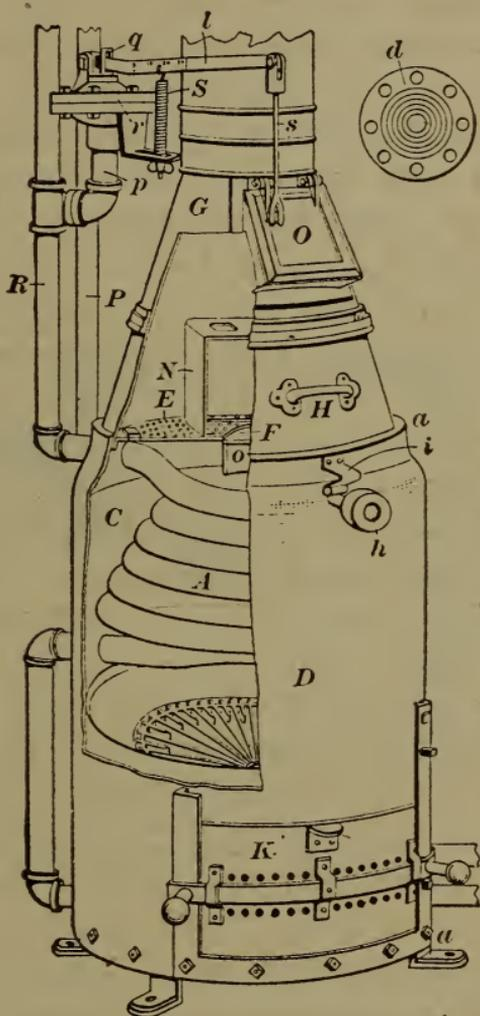
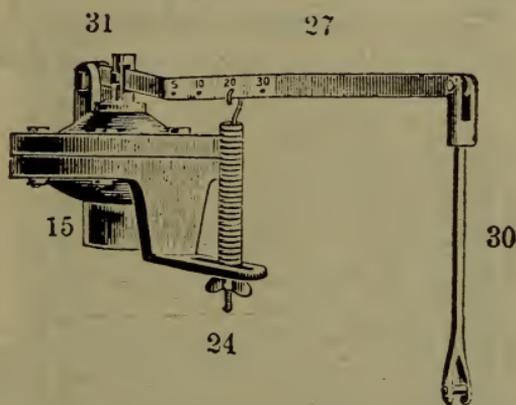

FIG. 4. IMPROVED FIRE-PROOF HEATER.
FIG. 5. AUTOMATIC REGULATOR AND PRESSURE INDICATOR
There is a fire-safe consisting of an outside shell or casing made of a flexible grade of steel, without joint or seam. See Figure 4. D is the fire-safe; the depth of the casing or shell is indicated from a to a. On the inside of the shell are sheets of asbestos and next to these layers of asbestos is a sheet-iron casing C, enclosing the coil A; the space between casing C and coil A serves as an air space for the hot gases from the fire, and the space inside the coil A serves as a fire chamber. The fire is accordingly within four casings: (1) A water casing consisting of the closely wound coil A filled with water; (2) a casing of sheet-iron; (3) a casing of asbestos layers; and (4) an outer casing of steel plate.
The smoke screen N is a cone shape casting, as shown in Figure 4 for feeding the coal in at the front, the opening being just behind the feed-door. The coal goes down through the bottom of the casting, thence through the coal feed-chute o into the fire. Safety plate F, which is controlled by the hand lever h (the latter being held in place by the spring i), closes the hole in the bottom of the screen N, the top of which has small holes as shown, for the smoke to pass through.
The fire-proof heaters just described have an automatic arrangement for regulating the fire according to the pressure in the heater and the temperature in the radiating pipes. It is in effect a draft regulator, as shown by the letter *r* in Figure 4. It is also shown in detail in Figure 5. It will be seen that a pipe indicated by *p* leaves the riser *R* at the point shown and runs into the regulator
To test for the amount of water in the drum and piping the fire should be low and no pressure in the heater. The height of the water in the drum should be noted by means of the combination cock C, Figure 5. If the water is at the right height it will run out of the drip pipe when the cock C is opened. To renew water when necessary to do so, it should be put in through the filling funnel f, which is attached to the cock C. When through the cock should be closed and the funnel turned down.